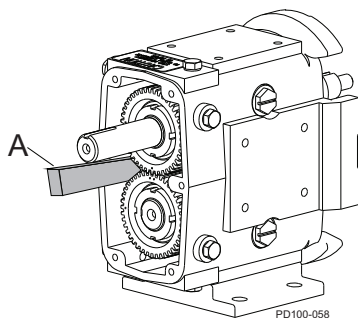

Figure 215 - Block Shaft Rotation
- Use a wood or nylon block (Figure 215, item A) to keep the shafts from turning. If a block is not available, use rags to block the gears, or with one rotor on the shaft, block the rotor with a nylon dowel.